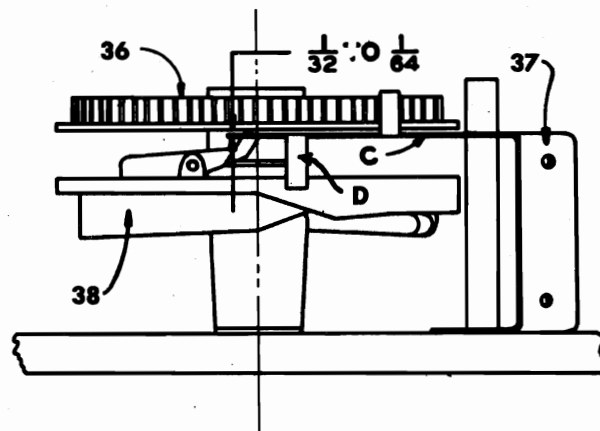

Fig. 5
If the trip assembly chatters while the changer is running, or if the changer cycles before the entire record is played, there is probably insufficient clearance between the hook end of the Velocity Trip and Roller Assembly (37) and the Actuating Gear (36). This clearance should be adjusted to be within $\frac{1}{32}$ " to $\frac{1}{64}$ " by bending the lever at point "C" shown in Fig. 5.